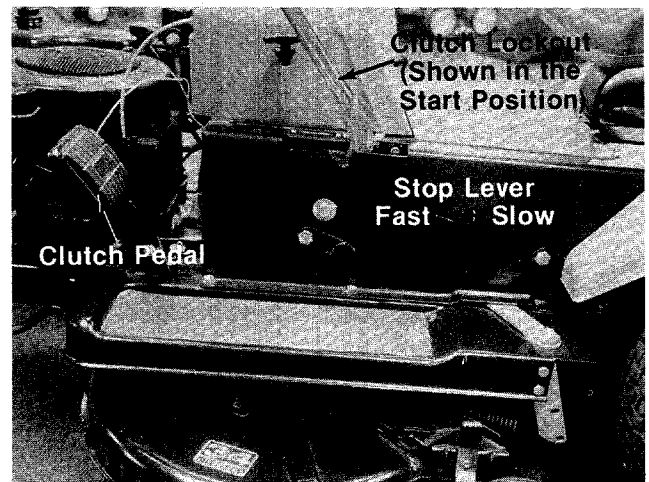

FIGURE 16.
e. **Clutch Pedal.** The clutch pedal is used to disengage the drive mechanism. Depressing the clutch pedal at any time will reduce mower speed. If depressed all the way, it will stop the mower. See figure 16.
f. **Clutch Lockout.** When the clutch pedal is depressed all the way it can be locked by placing the clutch lockout in the "START" position as shown in figure 16. The clutch lockout must be in this position before the engine will start.
g. **Stop Lever.** The stop lever allows you to regulate the maximum ground speed of the riding mower by setting the stop lever in any one of the five settings. The farther forward the stop lever is set, the faster the ground speed. See figure 16.
2. Place the clutch lockout in the "START" position. See figure 16.